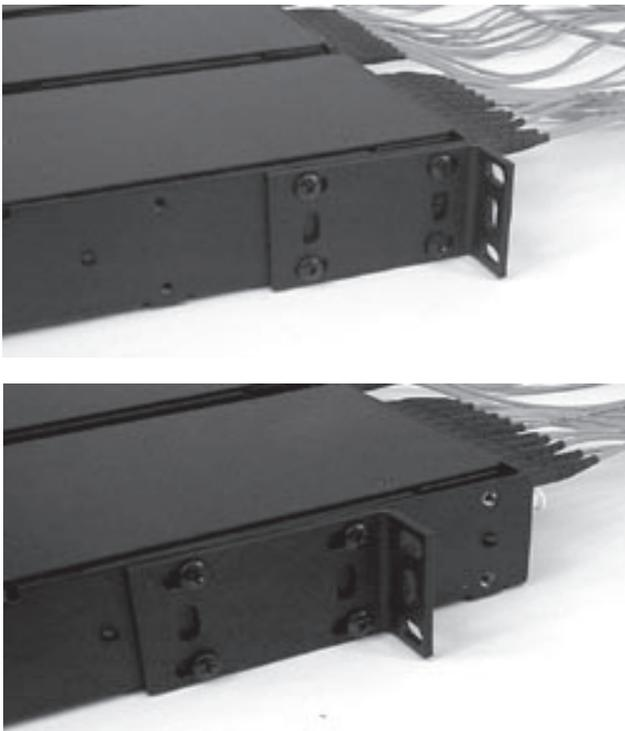

Figure 3
4.1 The HDH-01U unit can be installed in a 19-inch utility rack if the mounting brackets are attached with the long side flush against the housing (Figure 3).
4.2 The unit can be installed in a 23-inch utility rack if the mounting brackets are attached with the short side of the bracket flush against the housing (Figure 3).